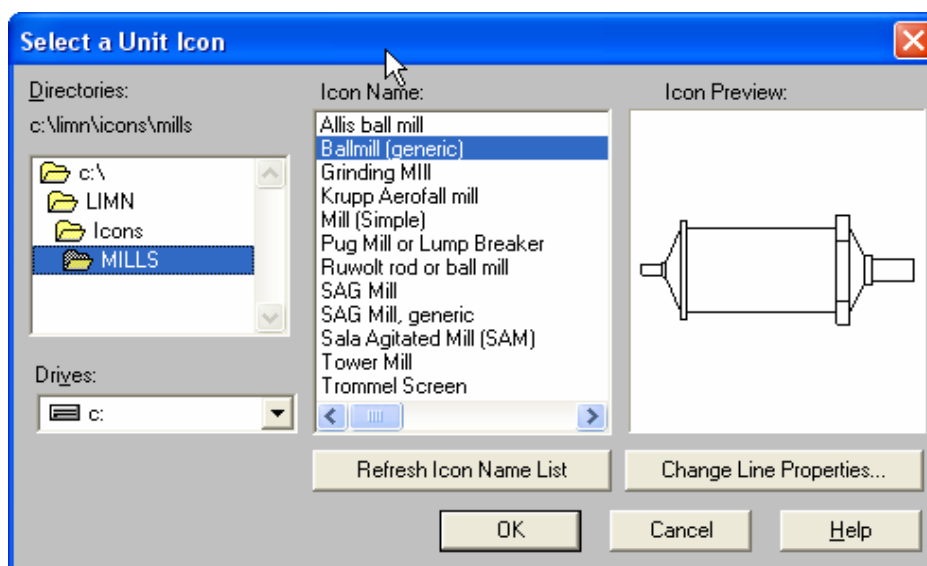

Figure 3: Icon List
2.2.3 The icons can be found by searching through the Icons lists, see figure 3 below.